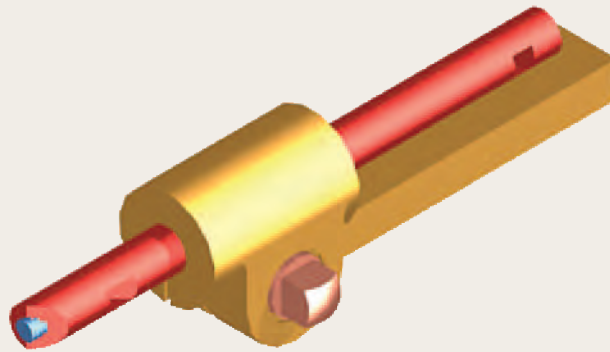
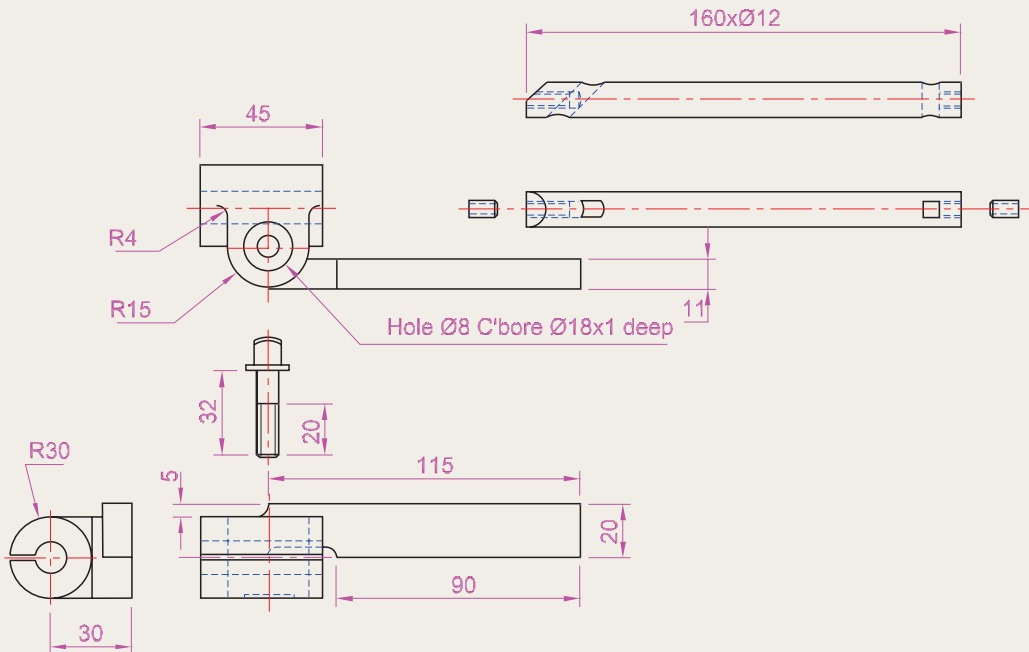

Fig. 15.48 Exercise 1
Fig. 15.49 Exercise 1 – parts drawings
1. A rendering of an assembled lathe tool holder is shown in Fig. 15.48. The rendering includes different materials for each part of the assembly. Working to the dimensions given in the parts orthographic drawing of Fig. 15.49, construct a 3D model drawing of the assembled lathe tool holder on several layers of different colours, add lighting and materials and render the model in an isometric view. Shade with **3D Visual Styles/Hidden** and print or plot a **ViewCube/Isometric** view of the model drawing.